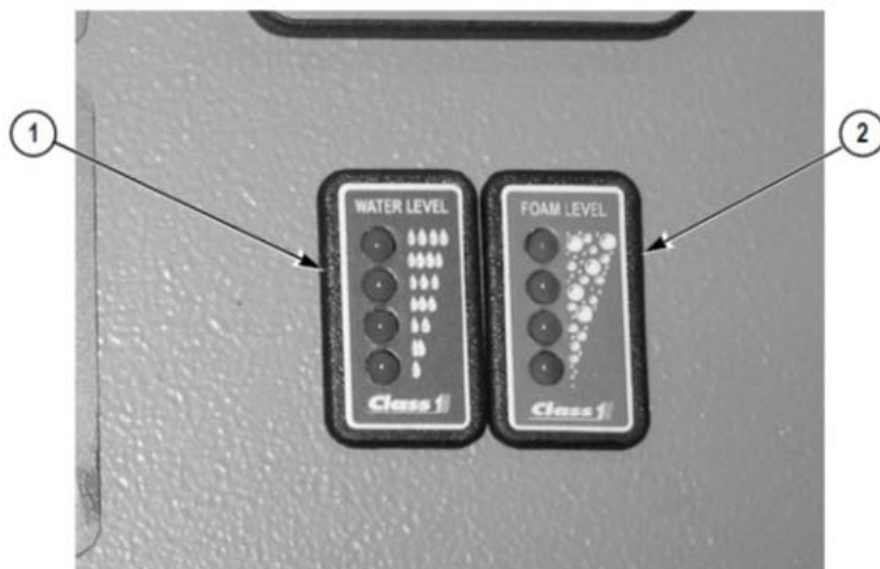

Figure 5-11. Water and foam level indicators.
**1. WATER LEVEL INDICATOR.** The electronic water level indicator (fig. 5-11) displays the water level in the onboard storage tank. LED lights indicate the water level as follows: